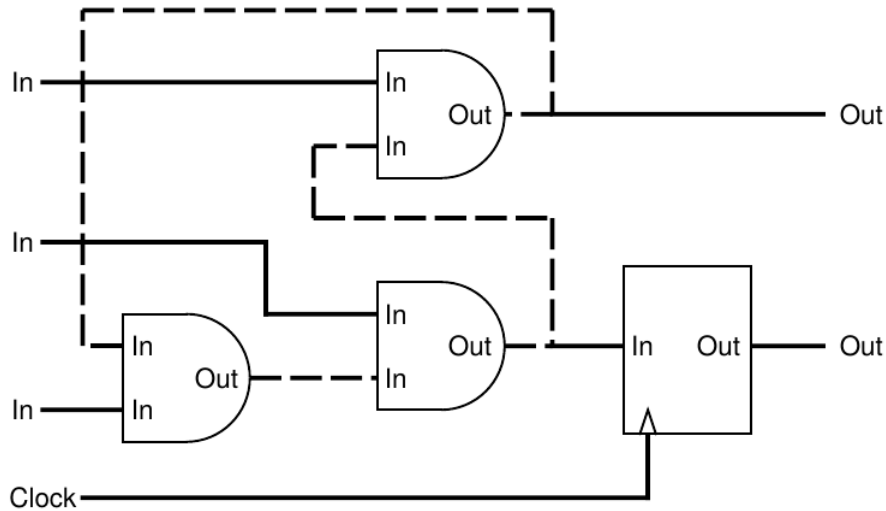

Figure 2: The design contains a cycle (dashed line)
- There may be *no cycles* composed exclusively of asynchronous nodes. In the real circuit such cycles could oscillate. In Figure 2, the dashed path constitutes a cycle of asynchronous nodes.